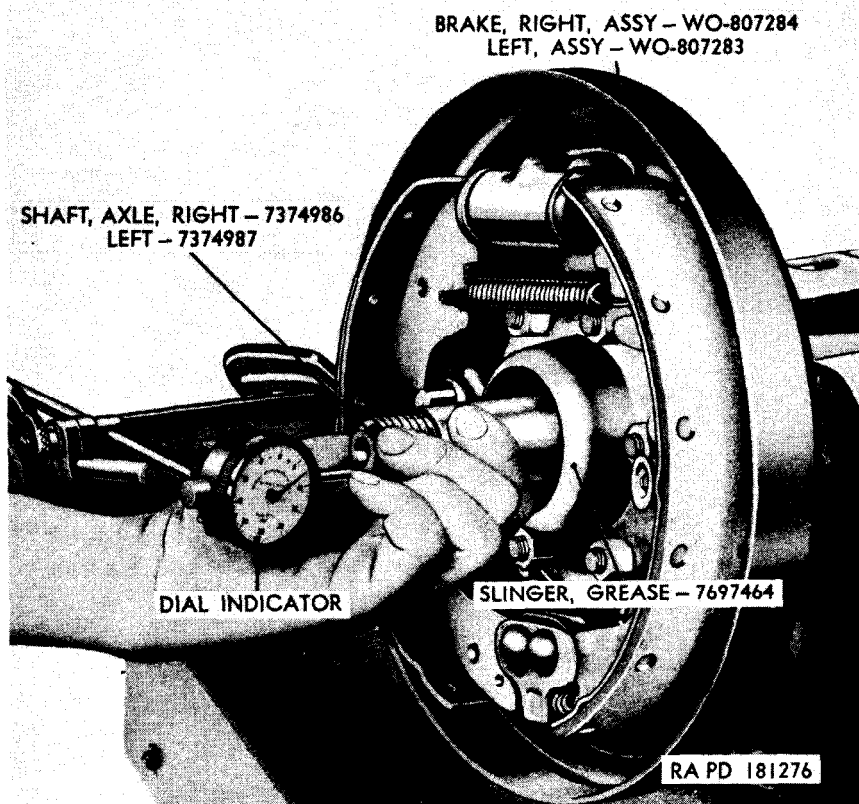

Figure 140. Checking rear axle shaft end play.
d. Check Axle Shaft End Play. Secure housing assembly in vise. Assemble a dial indicator so that its contact point bears against end of shaft. Check end play by moving axle shaft in and out (fig. 140). Correct axle shaft end play is 0.001 to 0.006 inch. If end play is not correct, remove or add bearing shims, as necessary.